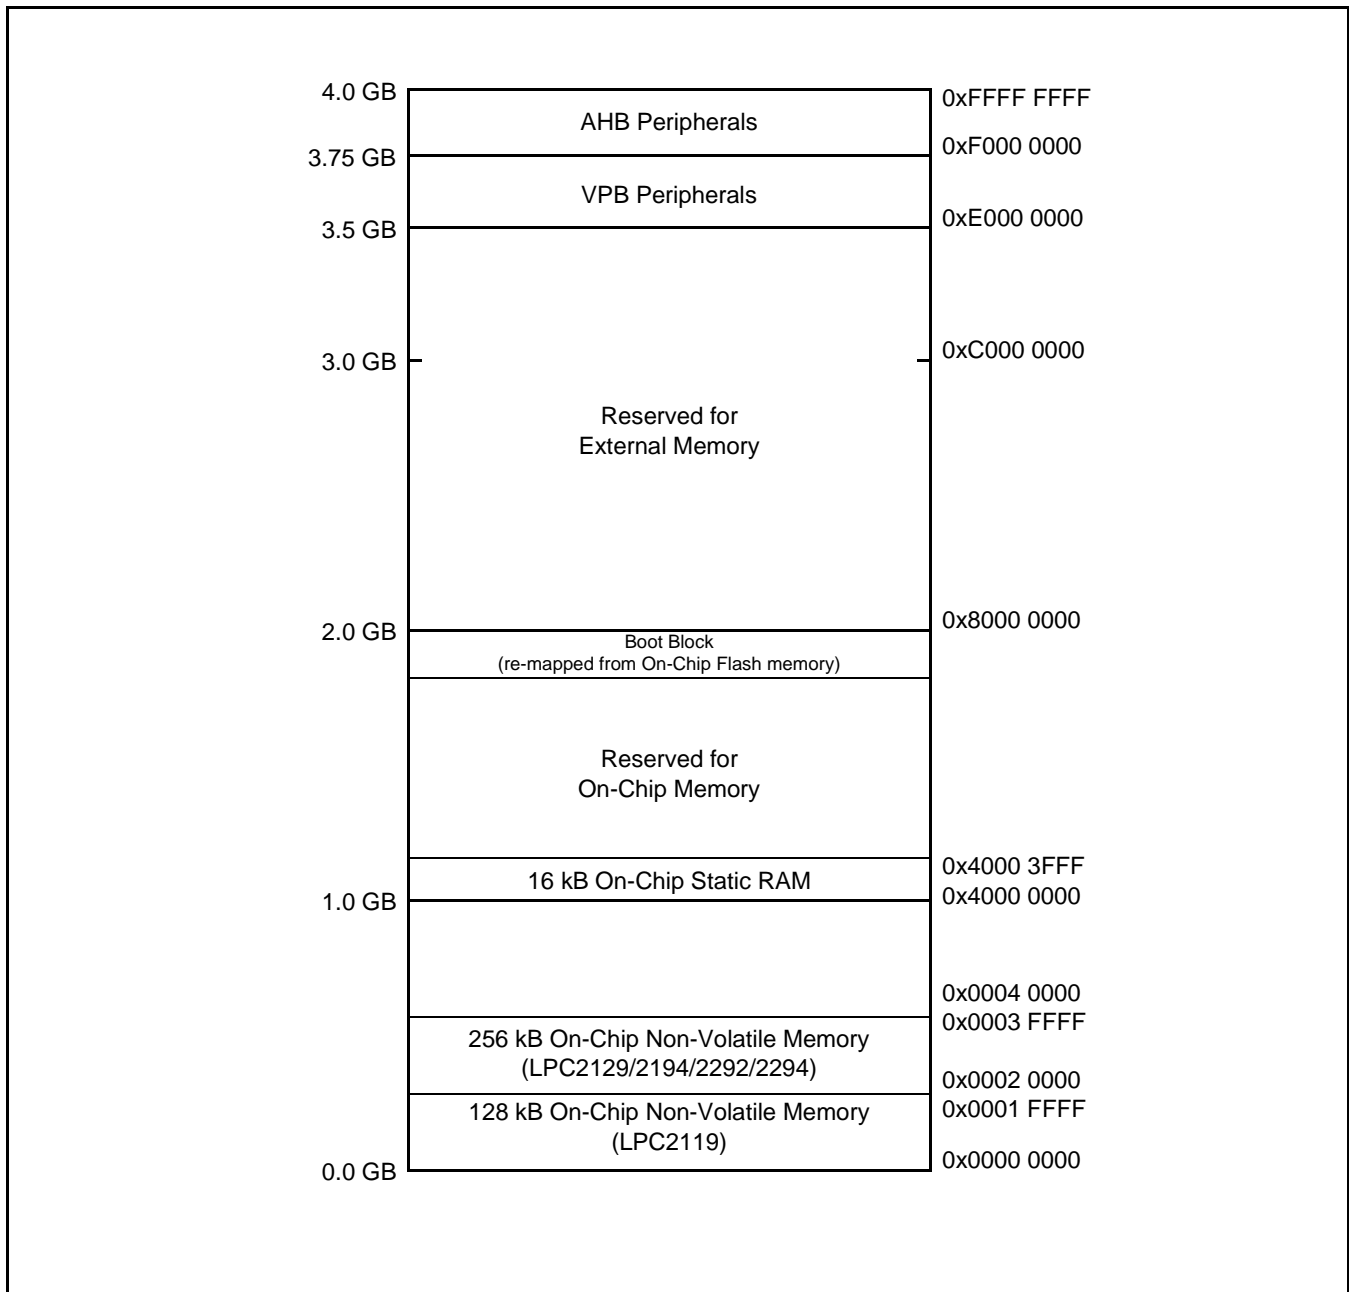
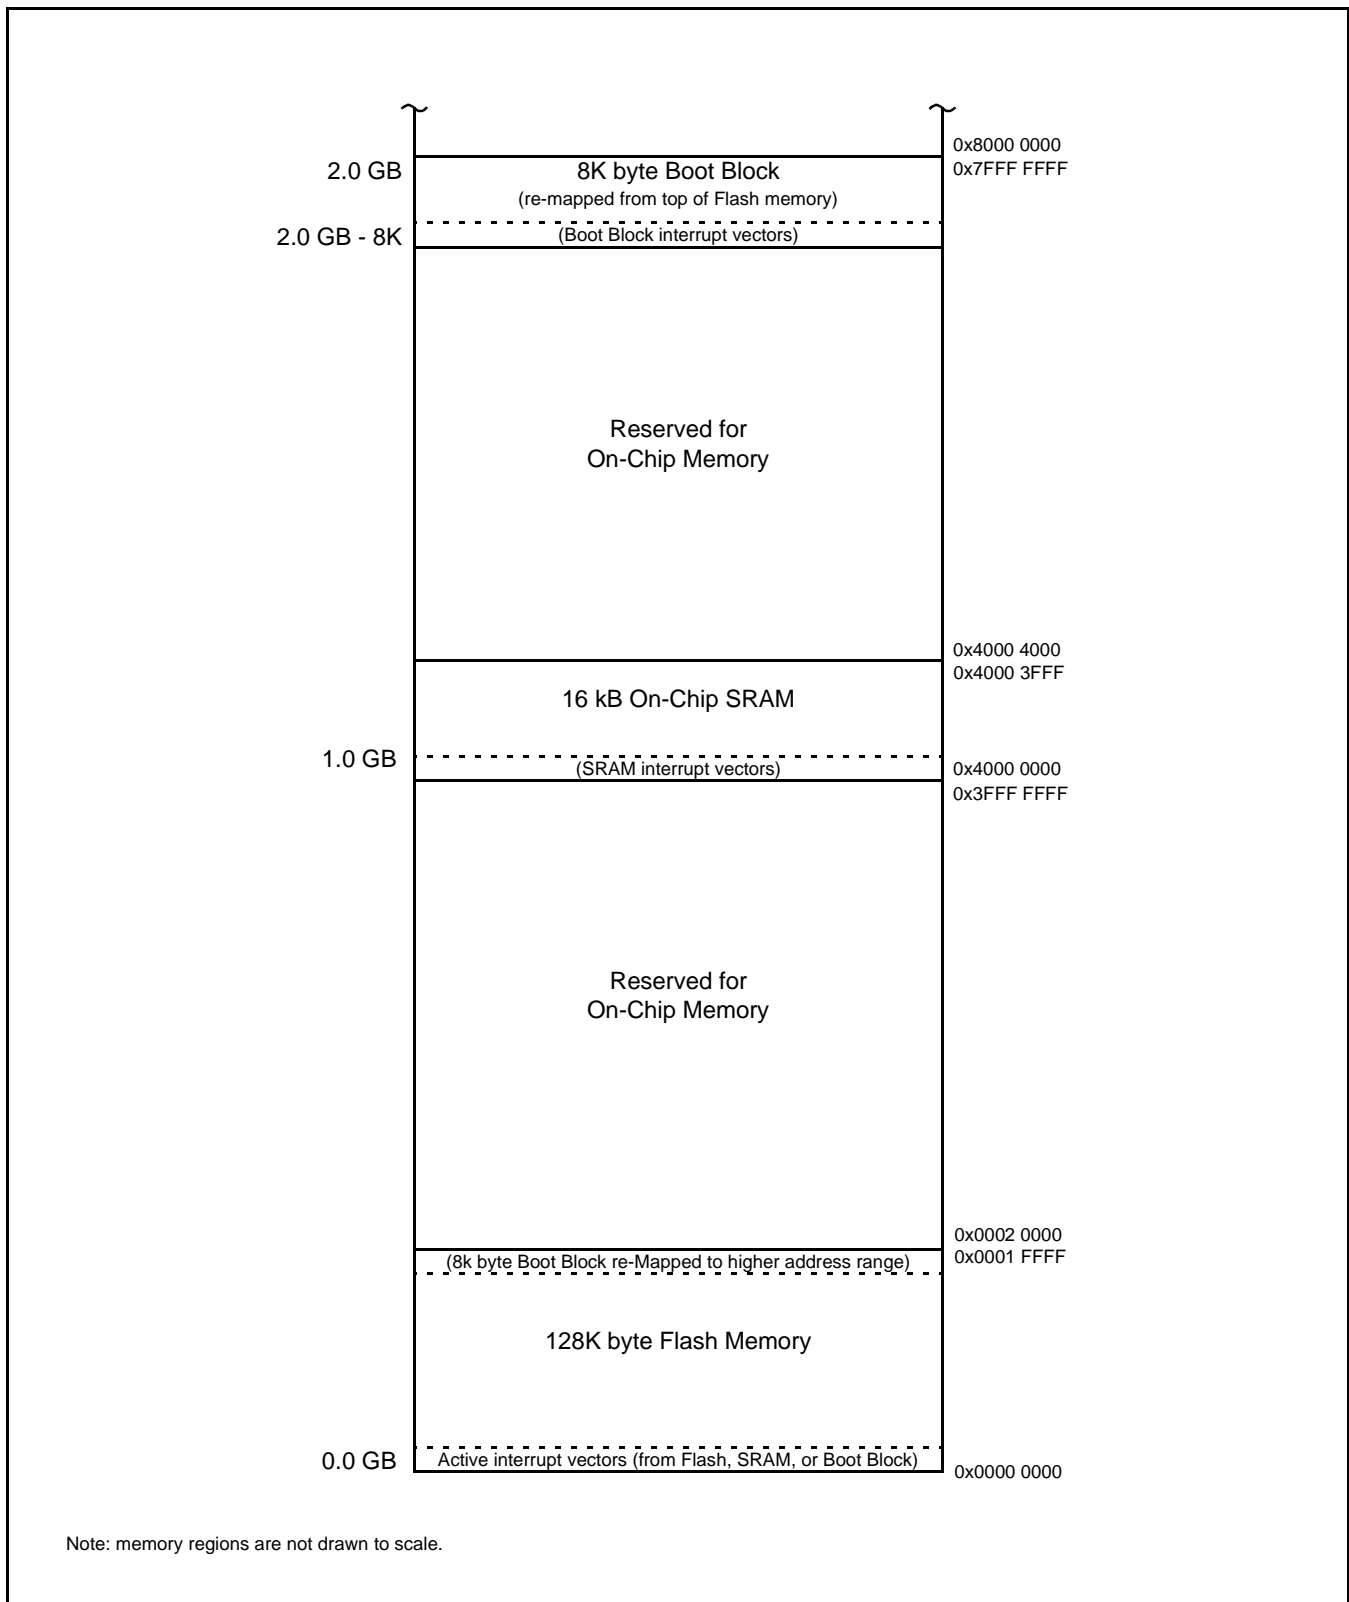

Figure 2: System Memory Map
Figure 6: Map of lower memory is showing re-mapped and re-mappable areas (128 kB Flash).
In order to allow for compatibility with future derivatives, the entire Boot Block is mapped to the top of the on-chip memory space. In this manner, the use of larger or smaller flash modules will not require changing the location of the Boot Block (which would require changing the Boot Loader code itself) or changing the mapping of the Boot Block interrupt vectors. Memory spaces other than the interrupt vectors remain in fixed locations. Figure 6 shows the on-chip memory mapping in the modes defined above.
- Address space between On-Chip Non-Volatile Memory and On-Chip SRAM, labelled "Reserved for On-Chip Memory" in Figure 2 and Figure 6. For 128 kB Flash device, this is memory address range from 0x0002 0000 to 0x3FFF FFFF, while for 256 kB Flash device this range is from 0x0004 0000 to 0x3FFF FFFF.
- Address space between On-Chip Static RAM and External Memory. Labelled "Reserved for On-Chip Memory" in Figure 2. This is an address range from 0x4000 3FFF to 0x7FFF DFFF.
This module is available in LPC2219 and LPC2294only. Since this 144 pin package pins out address lines A[23:0], the decoding among the four banks uses address bits A[25:24]. The native location of the four banks is at the start of the External Memory area identified in Figure 2 on page 48, but Bank 0 can be used for initial booting under control of the state of the BOOT[1:0] pins.